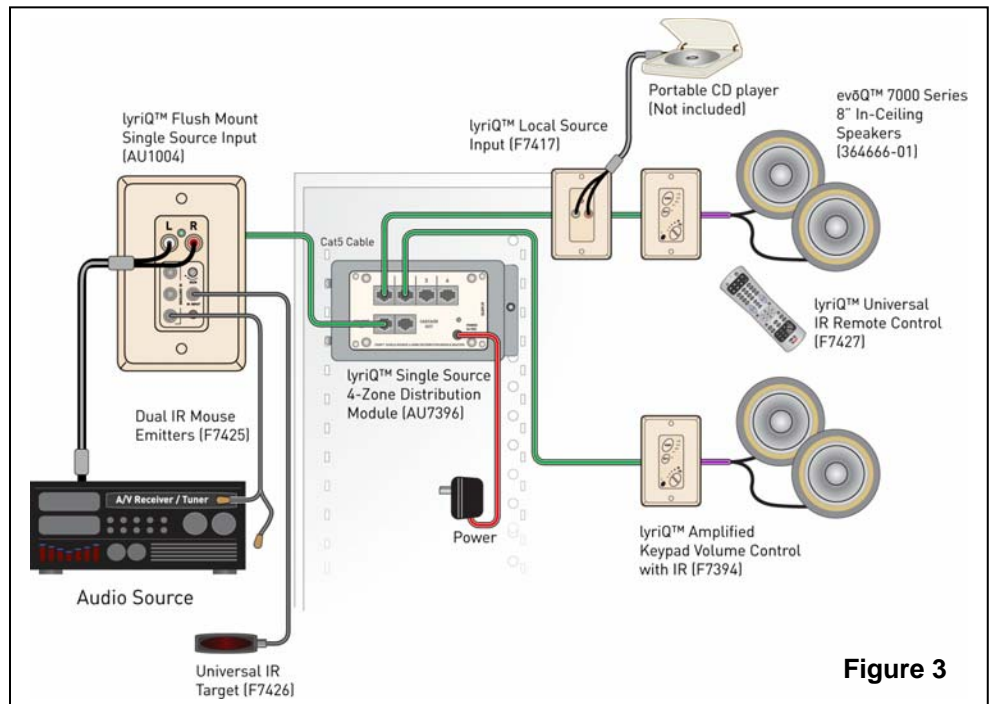

Figure 3
- D. Connect a pair of RCA interconnect cables from the receiver/pre-amplifier line level output (2nd zone out, tape 1 out, tape 2 out, etc.) to the AUDIO IN jacks of the Flush Mount Single Source Input (see **Figure 3**). It is recommended that you NOT use a pre-amp (or non fixed output) from a receiver/pre-amplifier. If this is used the output will be post the receiver/pre-amplifier volume control thus making the output to the Flush Mount Single Source Input vary with the volume setting of the receiver/pre-amplifier. If a FIXED output like tape 1 or tape 2 is used, it is independent of the volume setting of the receiver/pre-amplifier thus allowing the lyriQ™ Volume Controls to have full control over the sound level.